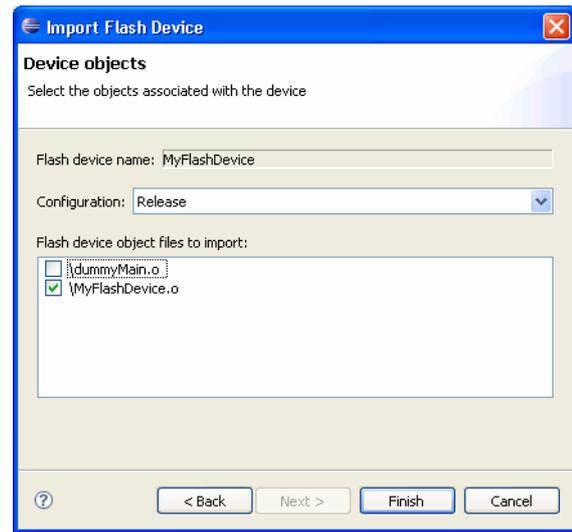

Figure 6 Selecting configuration and object files to import
5. Check the .o object file that contains your flash algorithm and uncheck any other .o files (see Figure 6). The .o file for your flash algorithm normally has the same name as you gave the flash device when creating the flash algorithm project. Click **Finish**.